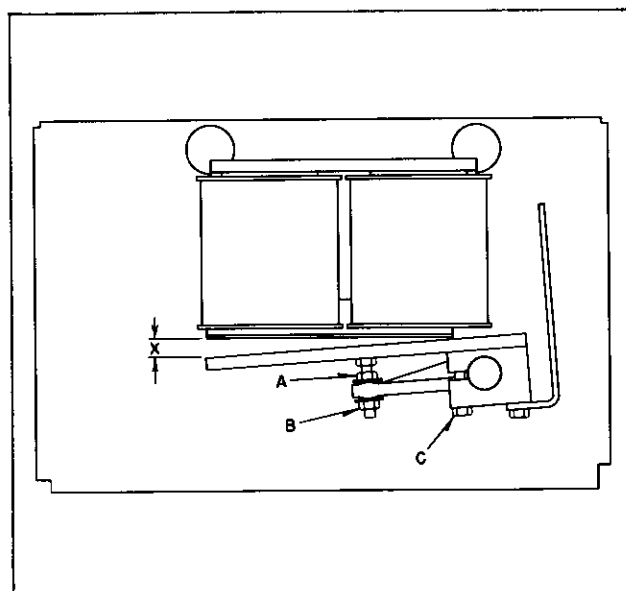

FIG. 4
The gap "X" (shown in Fig. 4) at the magnet armature with the armature closed to the contact touch position, is a convenient measure of contact overtravel. With new contacts the contact overtravel should be measured at point "X" and adjusted as follows:
- 1) Loosen the two bolts "C" in Fig. 4, which clamp the magnet armature to the shaft.
- 3) Adjust the locknuts "A" and "B" in Fig. 4 either up or down, and lock them in position when the gap at "X" is $\frac{1}{16}$ " \pm $\frac{1}{64}$ ".